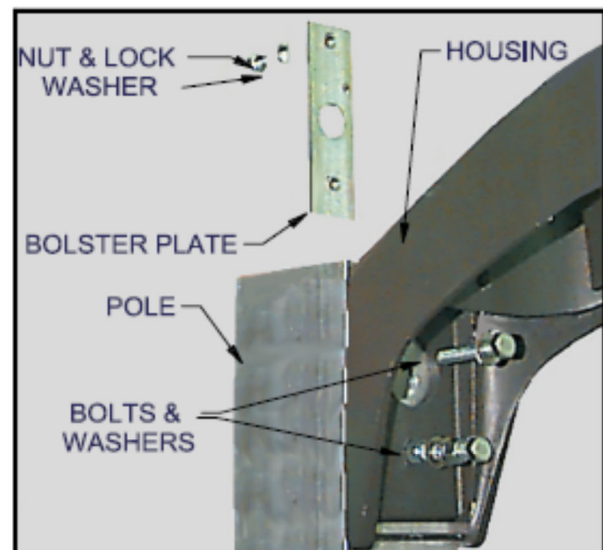

FIGURE 2
3. PLACE LUMINAIRE MOUNTING SURFACE AGAINST SQUARE POLE SO THAT MOUNTING HOLES ALIGN. WITH AN ASSISTANT HOLDING THE LUMINAIRE, INSERT THE BOLSTER PLATE INTO THE INSIDE OF THE POLE WITH THE TAPPED HOLE TOWARD THE BASE. USING (1) 3/8-16 BOLT, WASHER AND LOCK WASHER, SECURE THE LUMINAIRE TO THE TAPPED HOLE OF THE BOLSTER PLATE. USING THE OTHER BOLT, WASHER, LOCK WASHER AND HEX NUT, SECURE THE LUMINAIRE TO THE UNTAPPED HOLE OF THE BOLSTER PLATE. (FIG 2) TIGHTEN BOLTS TO 20 FT. LBS.